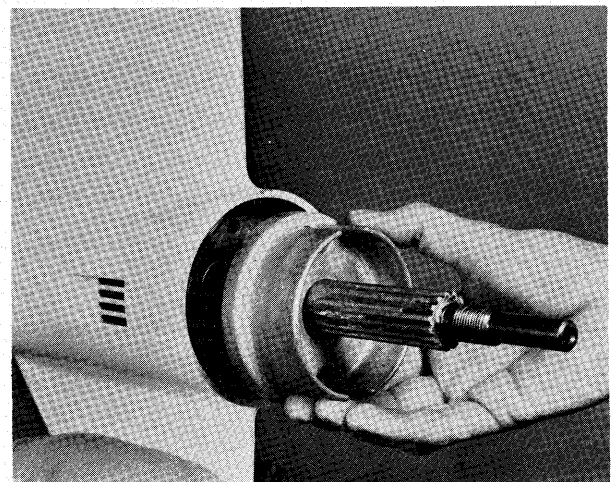

Figure 11—Removing Anticorrosion Anode
- B. Remove two (2) screws securing anode to propeller shaft spool and remove anode. See figure 11.
- A. Place anticorrosion anode on gear housing as shown in figure 11. Apply Loctite (Special Tool T2963-1) to threads of two anode screws, install screws and tighten securely.